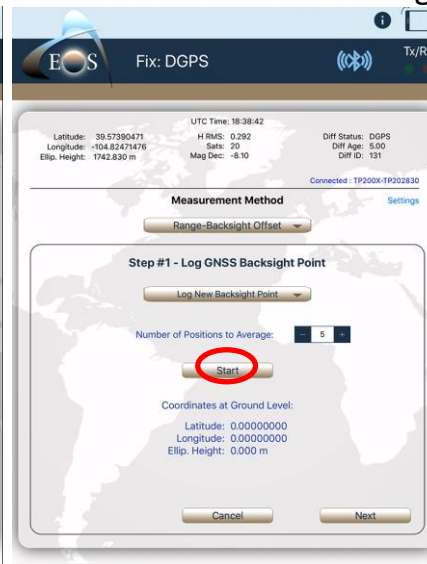

Figure 10B
- 10B. **Step #1:** Occupy the Backsight point, confirm the Number of Positions to Average is correct, tap **Start** (Figure 10B) and when the GPS data is recorded, tap **Next**